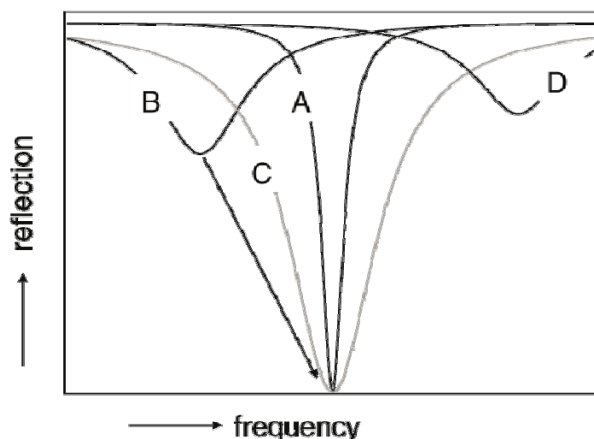

Fig. 2:
- Observe the changes in reflected frequencies on the monitor and try to achieve a narrow absorption line at 400 MHz (see Fig. 2).